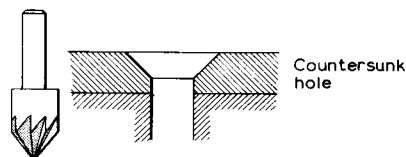

Fig. 4.77
2. **Countersinking tools** are used for countersinking holes for screws or rivets. They are made to give either a 90° or a 120° angle of countersink (Fig. 4.77).